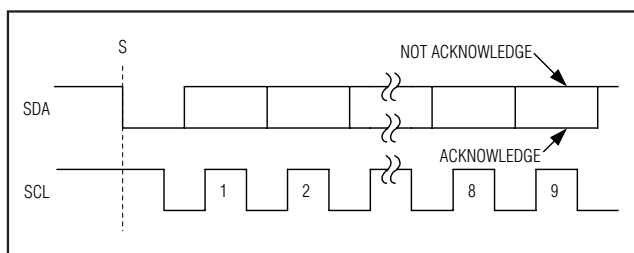

Figure 6. Acknowledge Bits
Data transfers are acknowledged with an acknowledge bit (A) or a not-acknowledge bit ($\bar{A}$). Both the master and the MAX1136–MAX1139 (slave) generate acknowledge bits. To generate an acknowledge, the receiving device must pull SDA low before the rising edge of the acknowledge-related clock pulse (ninth pulse) and keep it low during the high period of the clock pulse (Figure 6). To generate a not-acknowledge, the receiver allows SDA to be pulled high before the rising edge of the acknowledge-related clock pulse and leaves SDA high during the high period of the clock pulse. Monitoring the acknowledge bits allows for detection of unsuccessful data transfers. An unsuccessful data transfer happens if a receiving device is busy or if a system fault has occurred. In the event of an unsuccessful data transfer the bus master should reattempt communication at a later time.